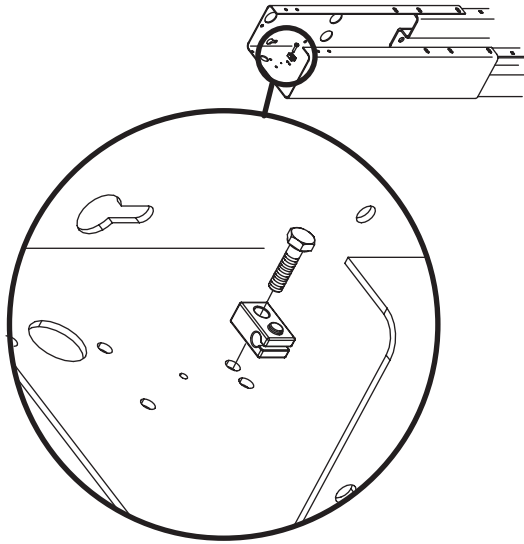

Fig. 2
4. Latch Cable Guides: Install the latch cable conduit guide brackets to column extensions with (1) 1/4"-20NC x 1" HHCS and 1/4"-20NC Flanged Locknuts, Fig. 2. HHCS should go through hole nearest the edge as shown, Fig. 2.